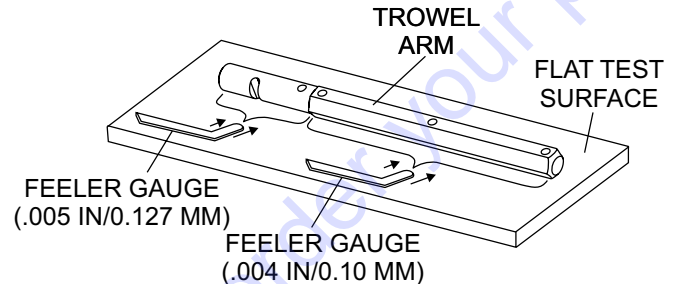

Figure 26. Checking Trowel Arm Flatness
1. Use a thick steel plate, granite slab or any surface which is true and flat, to check all six sides of each trowel arm for flatness (Figure 26).